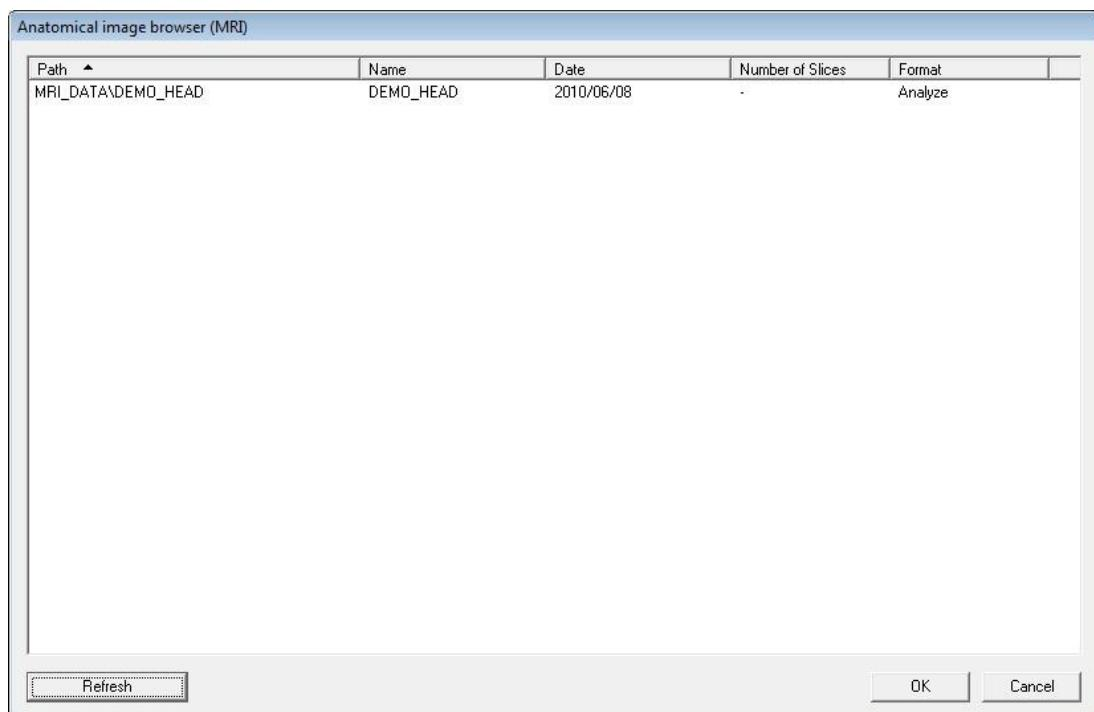

Fig. 65. Anatomical image browser (MRI) -dialog
5. The **Anatomical image browser (MRI)** -dialog opens (see Figure 65).